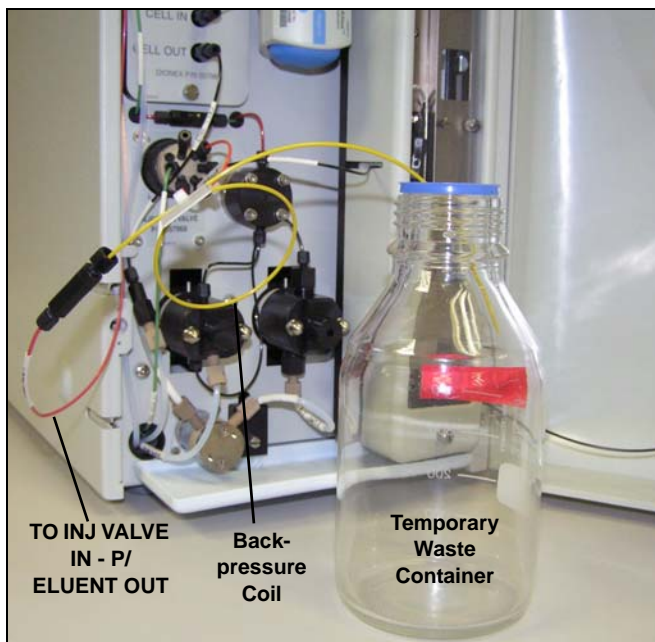

Figure 83. Plumbing Connections for Conditioning the EluGen Cartridge with Carbonate Eluent
10. Disconnect the **TO INJ VALVE IN - P/ELUENT OUT** line from port **P (2)** on the injection valve.
11. Use a 10-32 to 10-32 coupler (P/N 042627) to connect the **TO INJ VALVE IN - P/ELUENT OUT** line to one end of the yellow 0.5 mL/min, 7 MPa (1000 psi) backpressure coil (P/N 053765) (see Figure 83).